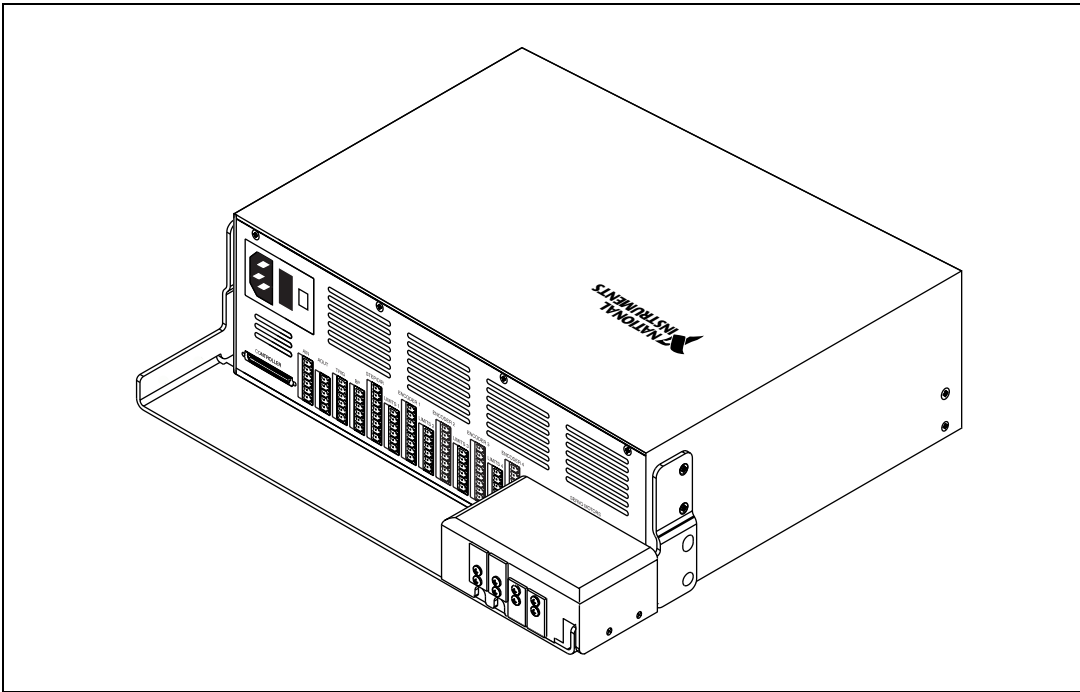

Figure 10. Rear Guard Installed on the MID-7654/7652
The rear guard installed on the MID-7654/7652 is shown in Figure 10.
2. Ensure that the bottom mounting plate of the rear guard is securely fastened to both sides of the MID-7654/7652, as shown in Figure 10.
- a. Remove the two screws that attach the protection cover to the side of the bottom mounting plate, as shown in Figure 10.